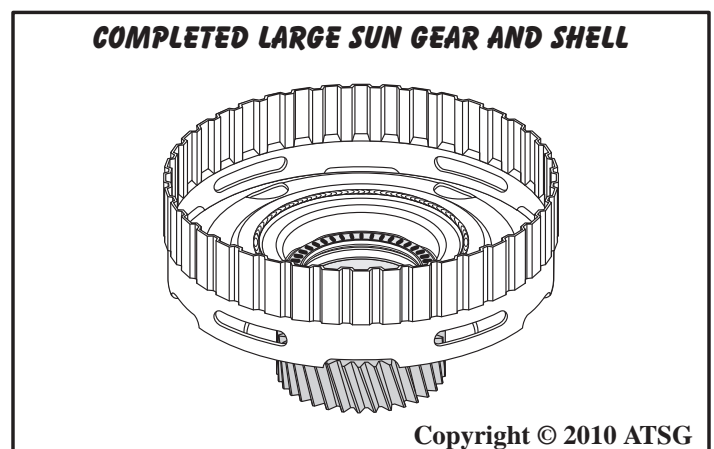

Figure 118
8. Set the completed large sun gear and shell aside for the final assembly process (See Figure 118).